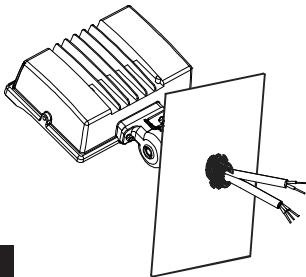

Fig. 1
1. Secure the fixture to a 1/2" NPS hole in the junction box or landscape post as shown in Fig. 1.